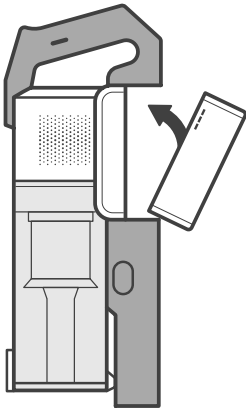

Figure 2.1
2. To reinstall, slide the battery into the slot in the vacuum body. **[Figure 2.1]** There will be a clicking sound when the battery is properly installed.